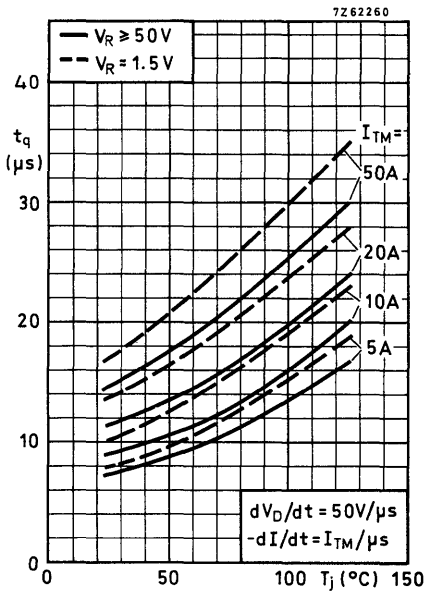

Fig. 11.
- b. Power loss due to turn-off may be discounted if an inverse parallel diode is connected across the thyristor to clip any reverse voltage which may occur following commutation. Note should be taken of the consequent increase in turn-off time (see Fig. 11).